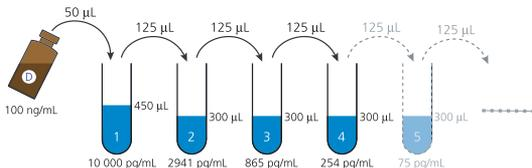

FIGURE 3.
4. Complete the 3.4-fold dilution series by transferring 125 μ L from tube 2 to tube 3 and vortex. Repeat this step for all tubes 3-10 (see Fig. 3).